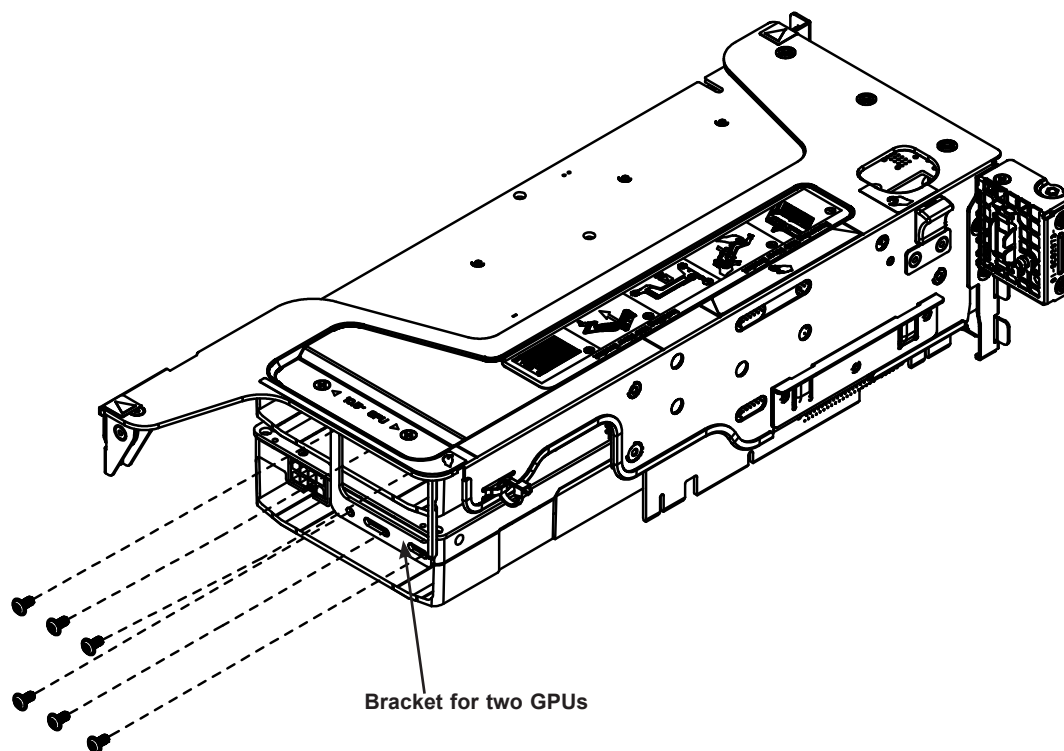

**Figure F-3. Inserting the Left-side GPUs into the Riser Card Bracket**
- Position the shroud as shown in Figure F-3. The right wall of the shroud just covers CPU2.